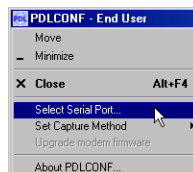

Figure 2-26. Select Serial Port
8. From the pop-up menu, choose **Select Serial Port** (Figure 2-26).